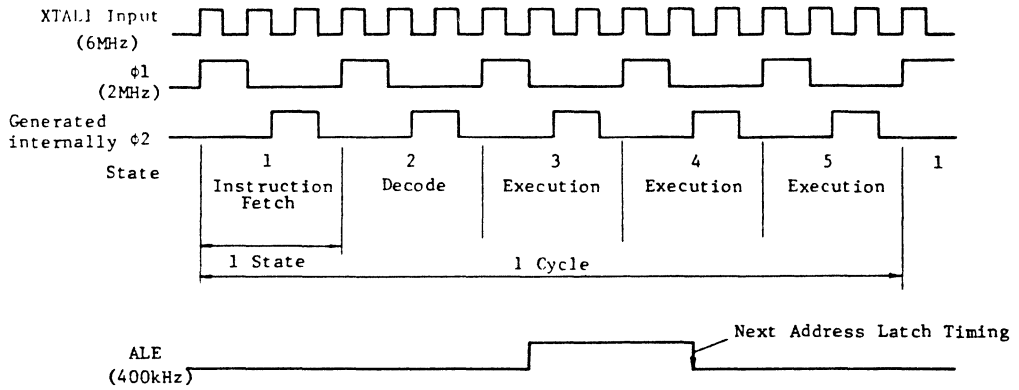

Fig. 4 Instruction Cycle Timing
(1) Instruction Cycle
- . Fig. 4 illustrates its relationship with the clock input to CPU.
- .  $\phi 2$  clock shown in Fig. 4 is derived to outside by ENTO CLK instruction.
(2) External Memory Access Timing